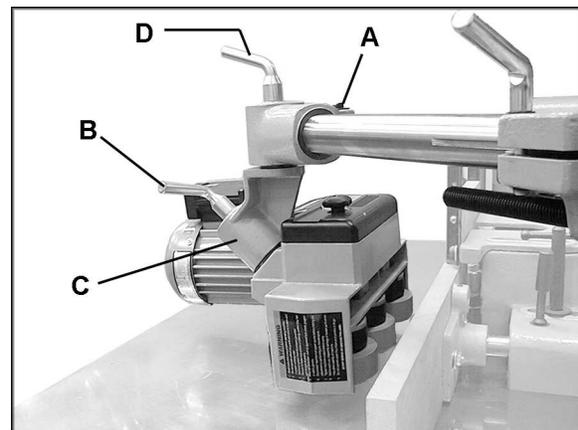

Figure 10
The stock feeder can be turned "edgewise" so that the feed is along the side of the workpiece. See Figure 10.
1. Loosen the screw on the arm cone (A, Figure 10) and slide the Stock Feeder off the horizontal arm.
2. Place the Stock Feeder edgewise with the rollers toward the bottom, as shown in Figure 10.
3. Loosen lock handle (B, Figure 10) and rotate the swivel cone (C, Figure 10) 180-degrees, as shown in Figure 10.
4. Re-tighten lock handle (B, Figure 10).
5. Loosen lock handle (D, Figure 10) and rotate the arm cone as needed until it can slide back onto the horizontal arm. Tighten locking handle (D, Figure 10).
6. Mount the Stock Feeder to the horizontal arm and tighten the screw (A, Figure 10).